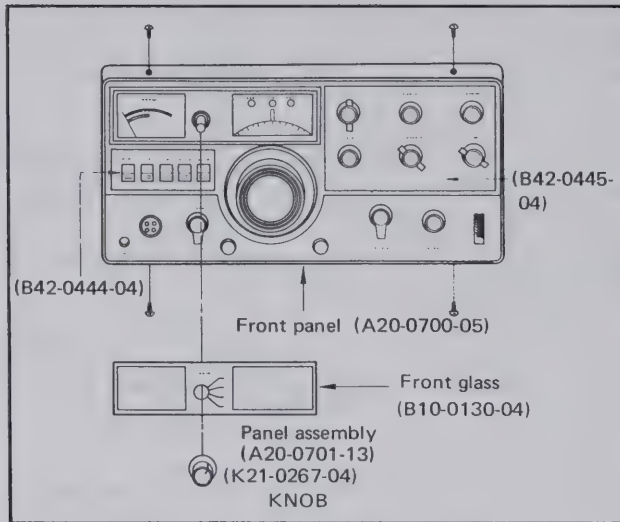

Figure 9. Removing the Front Panel
3. Remove all of the front panel knobs and the front glass as shown in Figure 9.
1. Remove the front panel knobs, take off the transceiver's case, remove the front glass and pull off the front panel as shown in Figure 9.